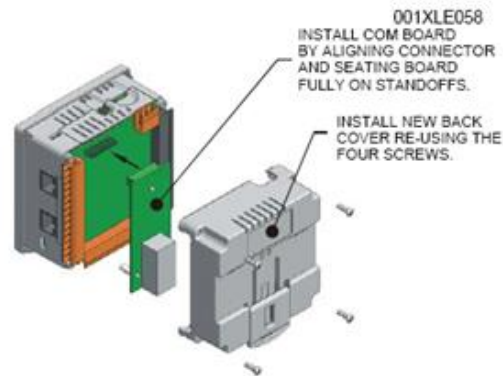

Figure 2 - Installing the COM Board in the XLE
3. Plug the XDAC board onto the 24-pin connector. Make sure all the pins are properly aligned (Figure 2).
7. Place the screw back into the hole and turn the screw slowly counter clockwise until it clicks into the threads. This prevents the screw from being cross-threaded. Now, turn the screw clock-wise until the cover is firmly secured. Repeat this process for all four (4) screws. Do not tighten the screws to more than 0.4Nm